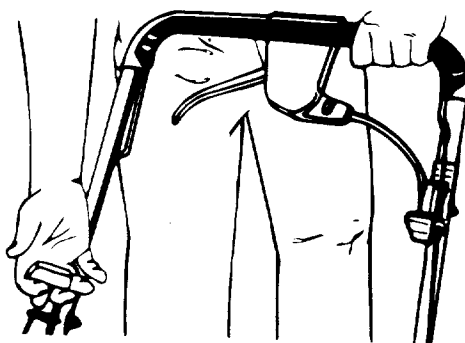

FIGURE 10.
3. Standing behind the unit, depress the blade control handle and hold it against the upper handle as shown. See figure 10.
4. Grasp starter handle (see figure 10) and pull rope out slowly until engine reaches start of compression cycle (rope will pull slightly harder at this point). Let the rope rewind slowly.